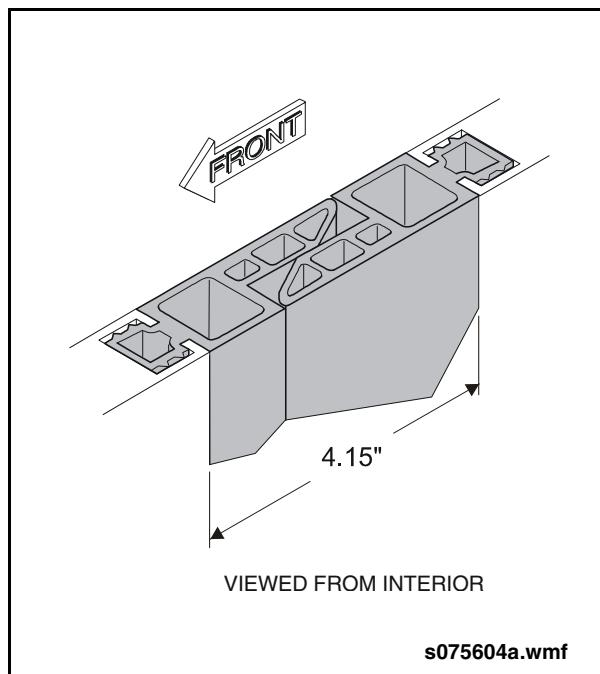

Fig. 16-22: Door Closure Adjustment
10. With the doors in the closed position, verify that the leading door edge metal to metal distance is 4.15" across the entire door length. See "Fig. 16-22: Door Closure Adjustment" on page 38. If adjustment is necessary, loosen the 3/18" - 16 acorn nuts securing the door panel to the door mounting brackets and move the panel forward or aft as required. Tighten mounting hardware to secure the adjustment.